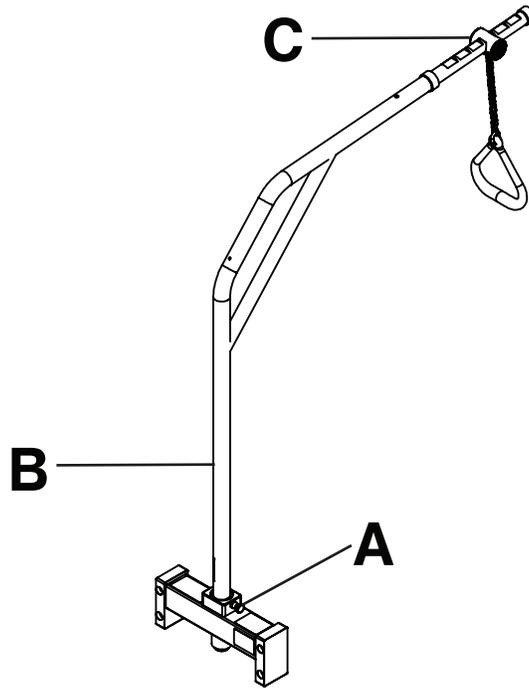

Figure 23 – Adjusting the patient helper
1. Pull the patient helper knob (A) and rotate the lifting pole (B) until the desired position (Figure 23).
2. Release the patient helper knob (A) and rotate the lifting pole (B) until the knob locks in position (Figure 23).
3. Lift the trapeze hanger bracket (C) and move it forward or backward until the desired position (Figure 23).